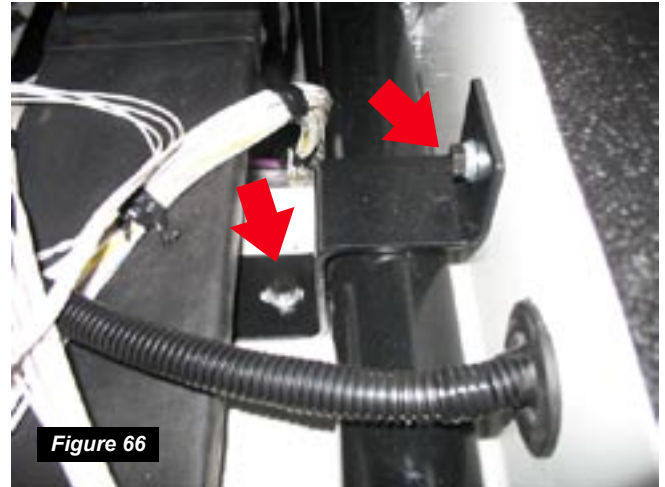

Figure 66
STEP 20: Using a 1/2" socket, torque the (4) hex head cap screws to 35 ft-lbs (\pm 3 ft-lbs) to secure the cross shaft brackets (*Figure 66*).